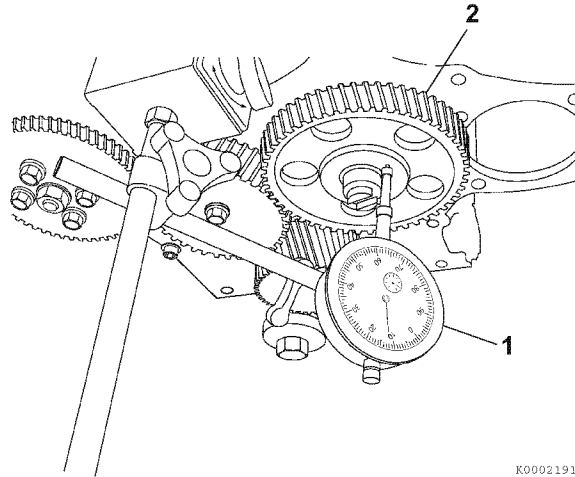

Figure 6-48
- Method A: Install a dial indicator (Figure 6-48, (1)) on the cylinder block. Move the camshaft and gear (Figure 6-48, (2)) in and out to measure the end play. Record the measurement. See Camshaft on page 6-6 for the service limit.